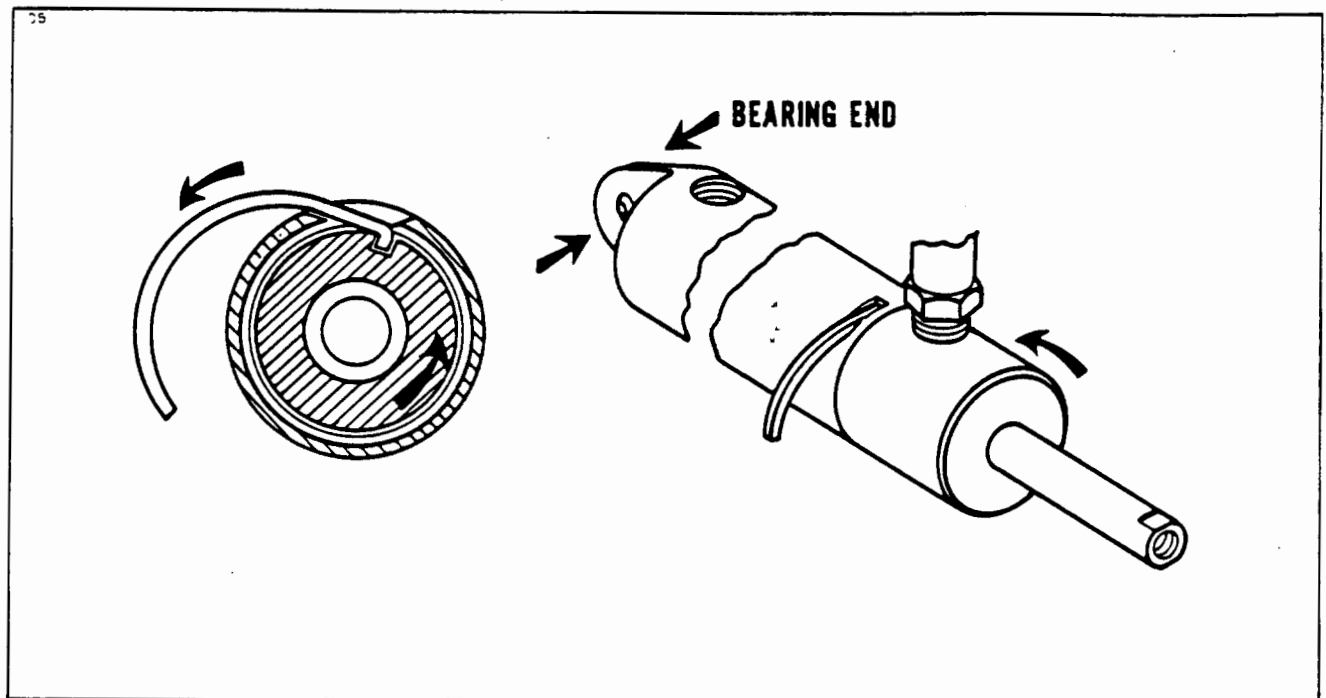

Figure 29-6. End Gland Locking Device (Main Gear)
4. Rotate the gland counterclockwise (with use of fitting) until the end of the gland lock ring shows in the slot in the cylinder body. Reverse rotation of the gland (clockwise direction) to allow the lock ring to move out of the slot. (Refer to Figure 29-6.) (It may be necessary to give the ring an assist to start out of the slot. If so, insert a strong wire pick or other available tool in the slot to lift up the end of the ring and then rotate gland.)